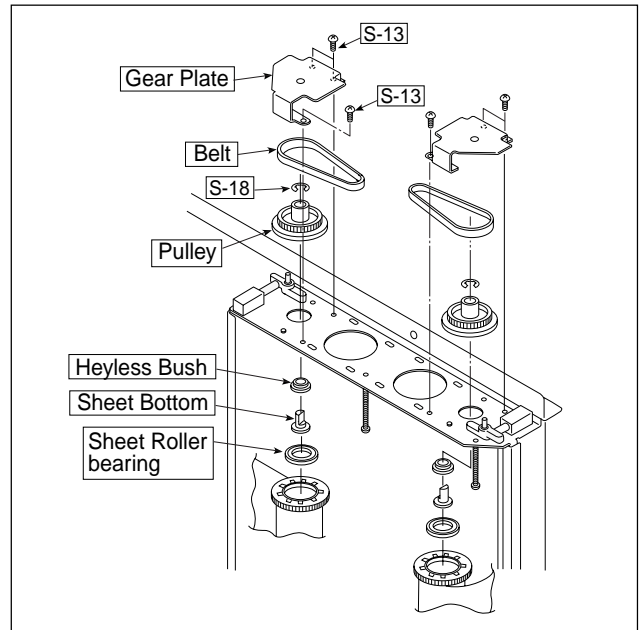

Fig. 13
9) Remove the Pulley, Belt. (See Fig. 13.)
1. Remove the "S-13" screws shown in Fig. 13 and then remove the Gear Plate.
2. Remove the "S-18" E-rings shown in Fig. 13 and then remove the Pulley, Belt.